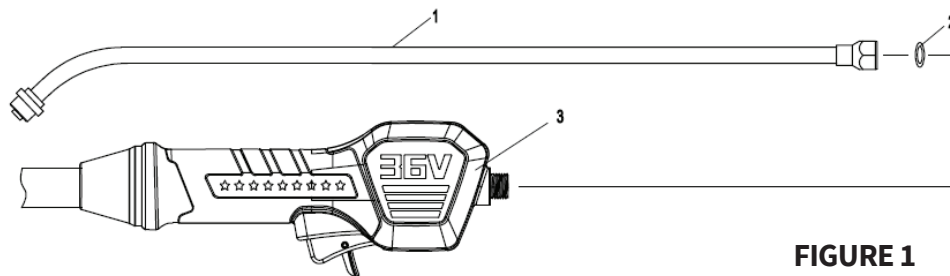

FIGURE 1
4.2.2 Screw the spray wand into the control handle. **FIGURE 1.**